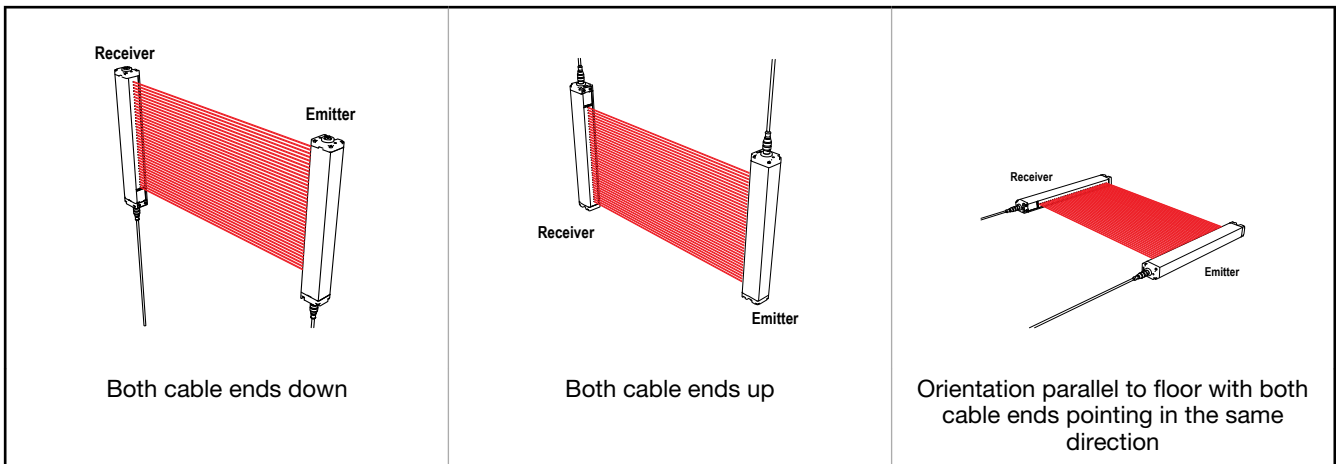

Figure 12. Examples of Correct Emitter/Receiver Orientation
Important: The connector ends of both sensors must point in the same direction (see Figure 12 on page 25). Loosely mount the brackets to the desired surface using the supplied M5 bolts and nuts, or user-supplied hardware. Brackets may face in or out, as desired.
3. Position the emitter and receiver in their brackets, as shown in Figure 12 on page 25. Loosely attach the front bracket plate to the bracket, at each end.
Important: The connector ends of both sensors must point in the same direction (see Figure 12 on page 25).